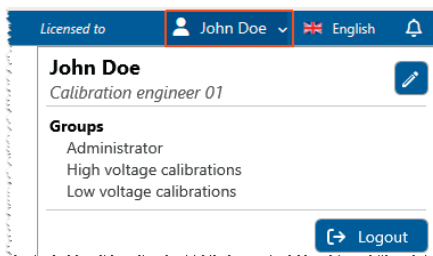

Fig. 3-33: Accessing the user account via header
- ▶ via the drop-down menu in the upper-right corner of the header (Fig. 3-33): Clicking the "Edit" button opens the settings screen for the currently active user account.